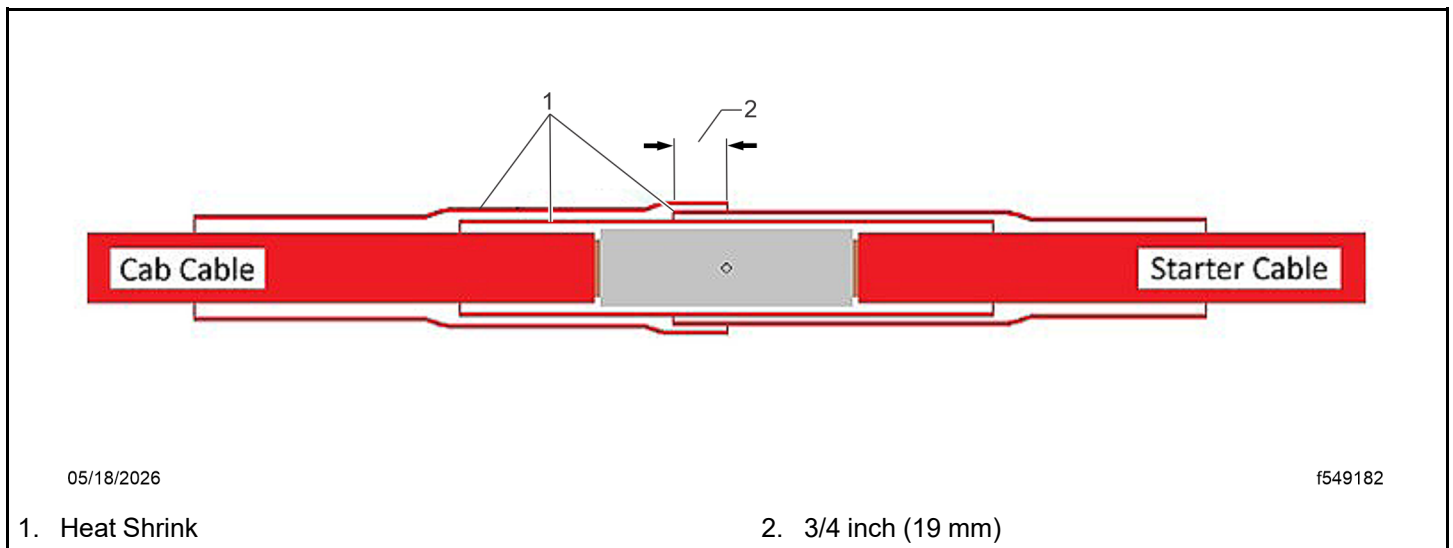

Fig 33, Heat Shrink Insulation
38. Insulate the butt connection with heat shrink sleeves. See Fig. Fig. 33.